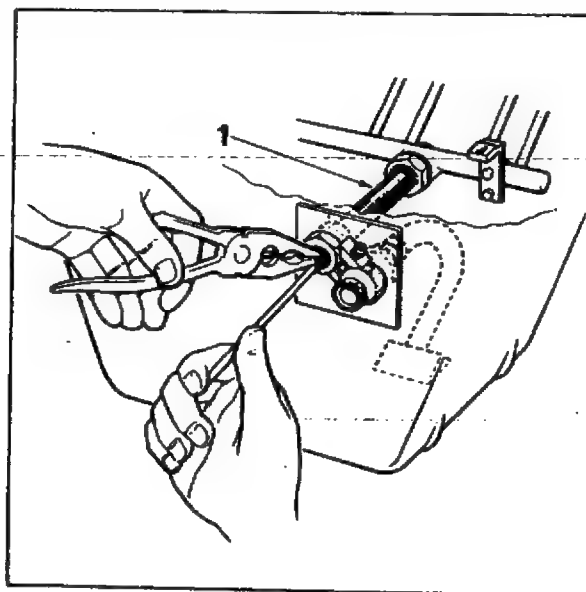

Fig. 27 Removal of Connection Tube
2. Unscrew the oil inlet adaptor from sump bulkhead and withdraw the oil rail connecting tube. (Fig. 27).
8. Fit the gland nut locking blocks and screw, position the gland nuts to accept the locking blocks and tighten the screw. Tighten the gland locking nuts. Finally adjust the position of the oil pick up pipe. (Fig. 27).
10. Insert a thin tube through the inlet connection to the oil rail pipe to act as guide, then fit the connecting pipe to the oil rail, ensuring the pipe is seated between each lip seal. (See fig. 27)